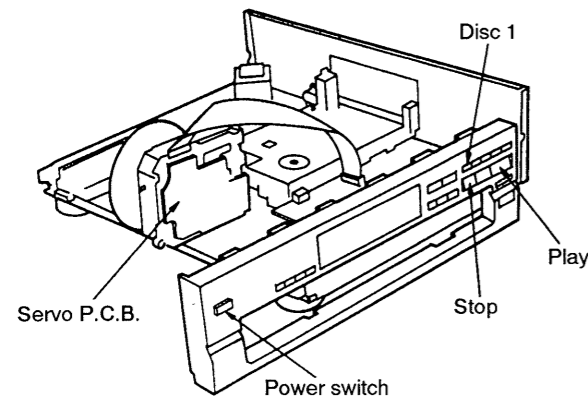

Fig. 6
5. When checking the soldered surface of the servo P.C.B., do as shown in Fig. 6.